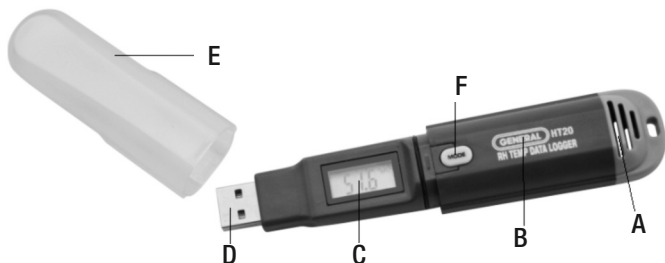

Fig. 1a. The components, controls and connector of the HT20
Fig. 1a below shows the main components, controls and connectors of the HT20. Fig. 1b (on the facing page) shows all possible indications on the HT20's display. Familiarize yourself with their names and functions before moving on to the Setup Instructions.
- The temperature and humidity sensor window (Fig. 1a, Callout A) is not covered